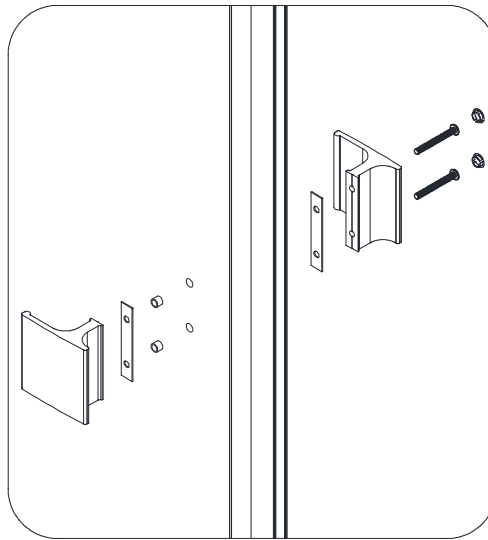

Fig 16
13. Install the **Handle (#11)** on the **Door Glass (#06)** using **Pan Head Screw ST4.2x10 (#13)** and one gasket per side. **(Fig 16)**